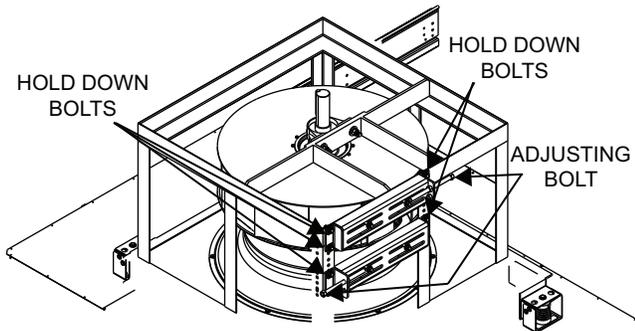

Fig. 49 — Return Fan Motor Plate Adjustment
1. Loosen holddown bolts. (See Fig. 49.)